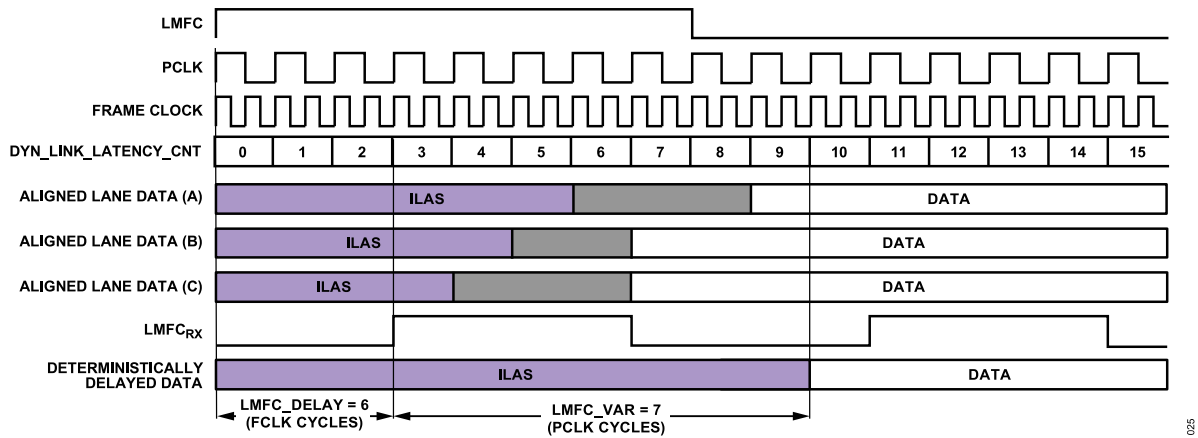

Figure 59. Multilink Synchronization Settings, Derived Method Example
Figure 59 shows how DYN\_LINK\_LATENCY\_x (Register 0x302 and Register 0x303) provides a readback showing the delay (in PClock cycles) between LMFCRX and the transition from ILAS to the first data sample. By repeatedly power cycling and taking this measurement, the minimum and maximum delays across power cycles can be determined and used to calculate LMFCVar and LMFCDel.
The example shown in Figure 59 is demonstrated in the following steps according to the procedure outlined in the Without Known Delays section. Note that this example is in Subclass 1 to achieve deterministic latency, which has a PClockFactor (frame clock rate/PClockRate) of 2 and uses K = 16; therefore, PClocksPerMF = 8.
- In Figure 59, for Link A, Link B, and Link C, the system containing the AD9135/AD9136 (including the transmitter) is power cycled and configured 20 times. The AD9135/AD9136 are configured as described in the Device Setup Guide. Because the point of this exercise is to determine LMFCDel and LMFCVar, the LMFCDel is programmed to 0 and DYN\_LINK\_LATENCY\_x is read from Register 0x302 and Register 0x303 for Link 0 and Link 1, respectively. The variation in the link latency over the 20 runs is shown in Figure 59 in gray.